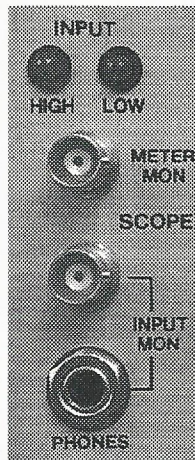

Figure 2. Monitor Outputs Connectors and Level Indicators
The Input Monitor Headphone Output (3) permits listening to the signal that is applied to the selected input connector before it passes through any filters or nulling circuitry. A headphone gain control is located on the rear panel to adjust the level at the headphones. High or low impedance headphones with a standard "tip-sleeve" or "tip-ring-sleeve" headphone plug can be used. Figure 2, on page 8, shows a close-up of the connector and markings.
The Input Monitor Scope Output (4) permits oscilloscope monitoring of the signal that is applied to the selected input connector before it passes through any filters or nulling circuitry. A BNC connector is used. Figure 2 shows a close-up of the connector and markings.
The Meter Monitor Scope Output (5) permits monitoring the signal that drives the meter. The signal at this output will have passed through any selected filters or nulling circuitry. A BNC connector is used. Figure 2 shows a close-up of the connector and markings.
A pair of Input Level LED Indicators (6), marked HIGH and LOW, alert the operator to signal levels that are out of range to make accurate measurements. The LOW LED will be on if the input is less than 100 mVrms. The HIGH LED will be on if the input is greater than 80 Vrms. The LED's are not active in the VOLTMETER and NOISE modes. Figure 2 shows a close-up of the indicators.